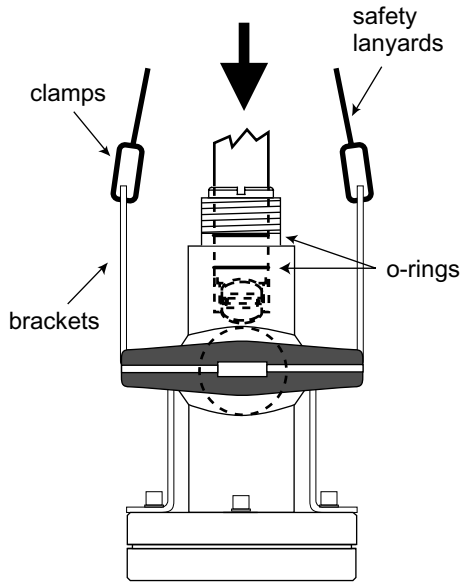

Figure 1
2. Carefully insert the sensor into the 3519 valve assembly until the first two o-rings seat inside the bore. (Figure 1)
3. Close the ball valve by turning handle to the horizontal position. (Figure 1)